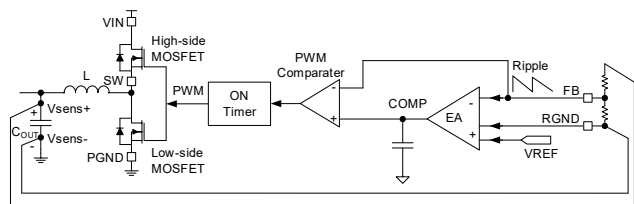

Figure 3. COT Control
The SGM611A13 uses constant-on-time (COT) structure to realize fast transient performance. Figure 3 shows the details of the control stage of SGM611A13. The error amplifier (EA) with a dedicated RGND pin corrects error voltage to achieve accurate remote output no matter in forced continuous conduction mode (FCCM) or pulse saving mode (PSM). The SGM611A13 adds internal ripple injection blocks to support low ESR MLCC output capacitor solution.